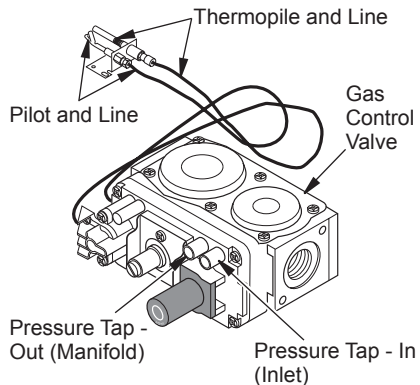

Figure 8 - Gas Control Valve with Thermocouple and Pilot (Valve May Vary from Illustration)
5. Attach the pilot gas line to the pilot outlet of the gas control valve and tighten. Connect thermocouple wires to TP and TPTH terminals on gas valve terminal block. See Figure 8. Do not overtighten. If using propane/LP gas, see *Changing Pilot Orifice*, page 7.